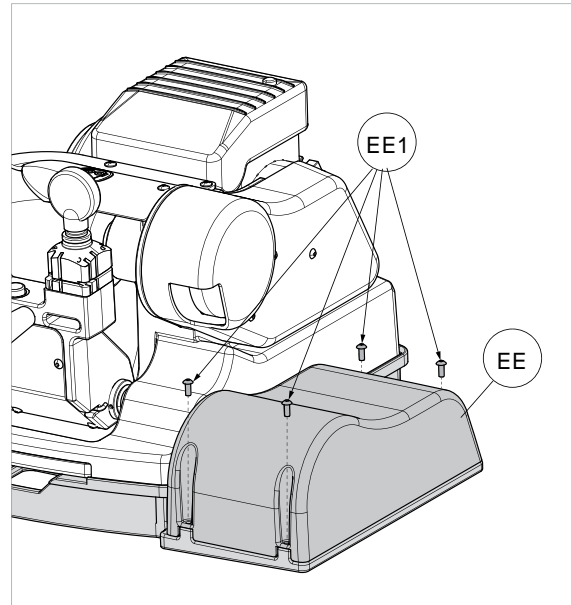

Fig. 43
- 1) Loosen the 4 screws (EE1) and remove cover (EE) (Fig. 43).